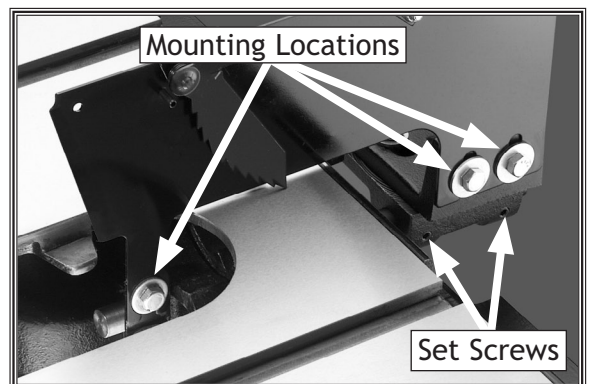
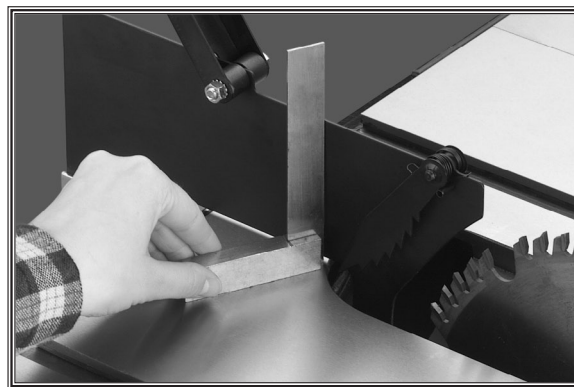

Figure 28. Blade splitter/guard assembly attached.
Figure 30. Squaring splitter.
16. Attach the blade splitter/guard assembly at the mounting locations shown in **Figure 28**. Use the two $\frac{5}{16}$ "-18 x 1" hex bolts and two $\frac{5}{16}$ " flat washers from the inventory hardware to connect the splitter to the shaft bracket. Leave the mounting bolts just loose enough to slide the blade splitter on and off during alignment.
19. Loosen the set screws on the lower bracket half (see **Figure 28**), square the splitter to the table (**Figure 30**), and retighten the set screws.